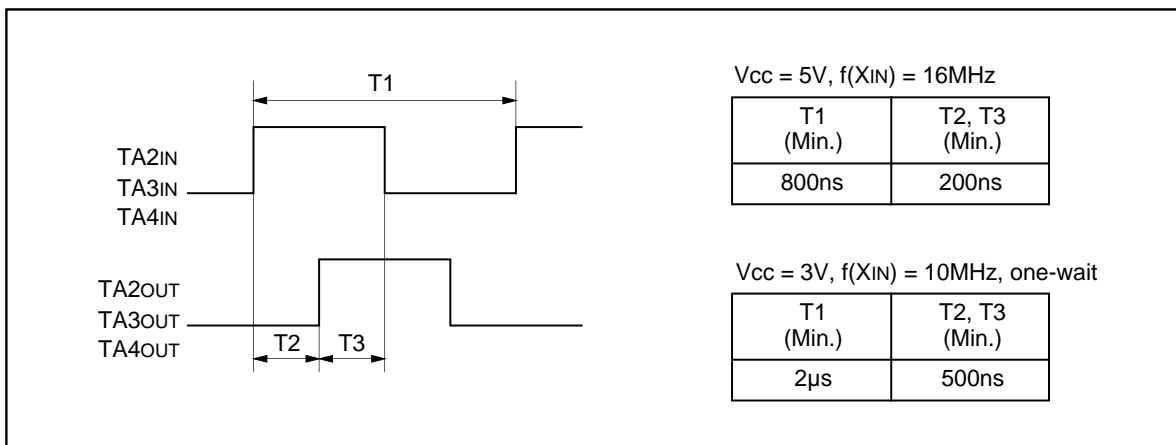

Figure 2.2.30. Standard of 2-phase pulses
- (3) Please note the standards for the differences between the 2 pulses used in the 2-phase pulse signals input signals to the TA_iIN pin and TA_iOUT pin (i = 2, 3, 4), as shown in Figure 2.2.30.
- (4) When free run type is selected, if count is stopped, set a value in the timer Ai register again.